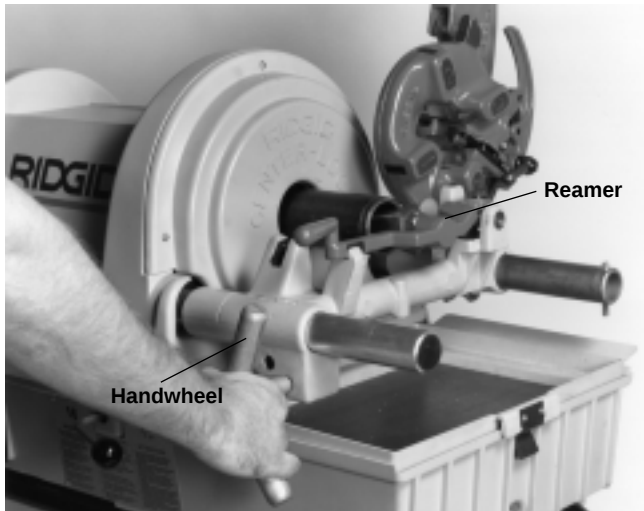

Figure 9 – Reaming with 344 Reamer
3. Position reamer into pipe and complete reaming by exerting slight pressure on handwheel (*Figure 9*).